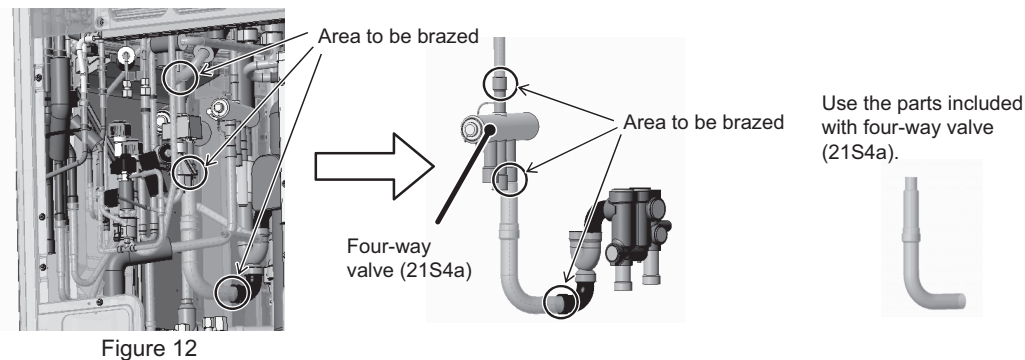

Figure 12
- (12A) Mount four-way valve (21S4a) to the pipe below four-way valve (21S4a) and on the back. A total of four areas require brazing, including the area indicated in (11A) and the areas indicated in Figure 12.